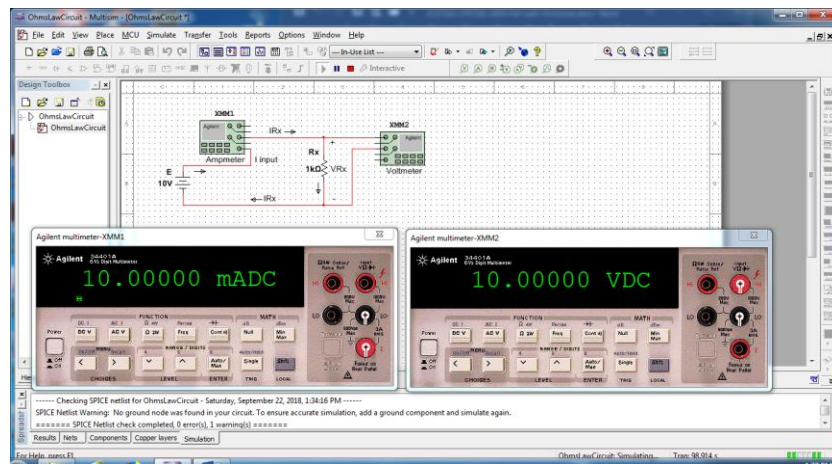

Figure 4. Multisim simulation screen
- h) Double click on XMM1 to view the DC mA reading (I_{RX}), as shown in Figure 4.
- i) Double click on XMM2 to view the DC V reading (V_{RX}), as shown in Figure 4